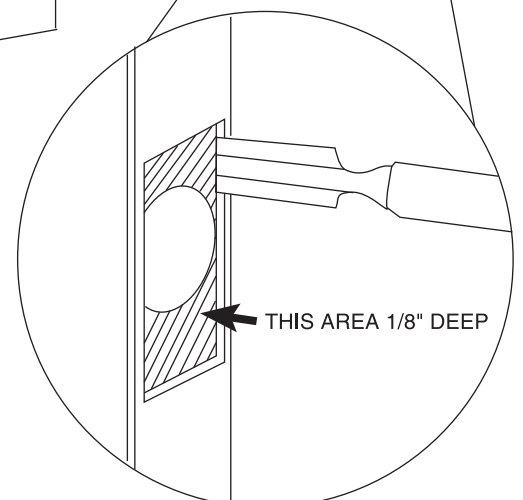

Figure 5
- l. Use a 1" chisel to chisel out drawn rectangle approximately 1/8" deep into door. Faceplate should fit relatively flat on door edge (Figure 5).